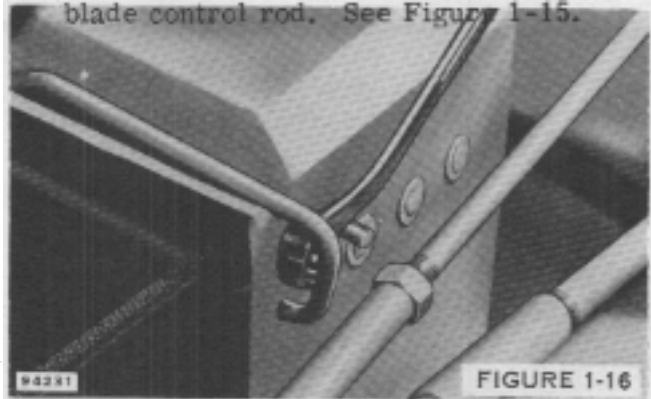

FIGURE 1-16
2. Insert a screwdriver or wrench under the belt retaining rod, and apply pressure until rod slips out of notch in the belt cover. Remove the rod from the housing. See Figure 1-16.